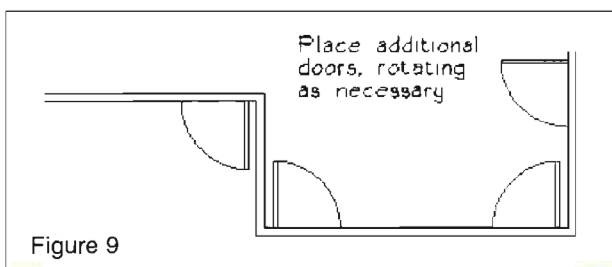

Figure 9
10. Continue adding a few doors to your walls, as shown in Figure 9. To stop placing the door symbol, press mouse button 3.